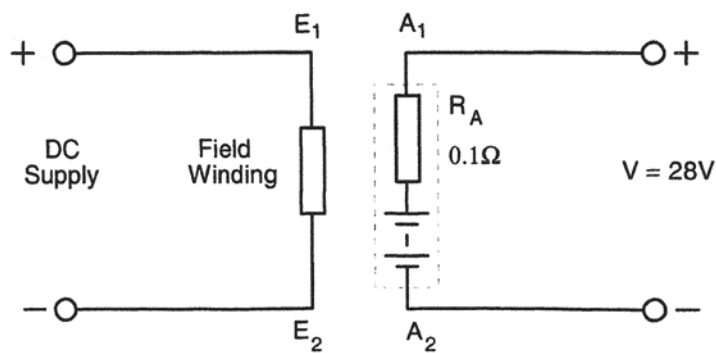

Figure1
7. The motor shown in figure 1 has a field flux of 0.0125Wb , runs at 250rpm , and has a machine constant of 8. For these conditions, determine the: